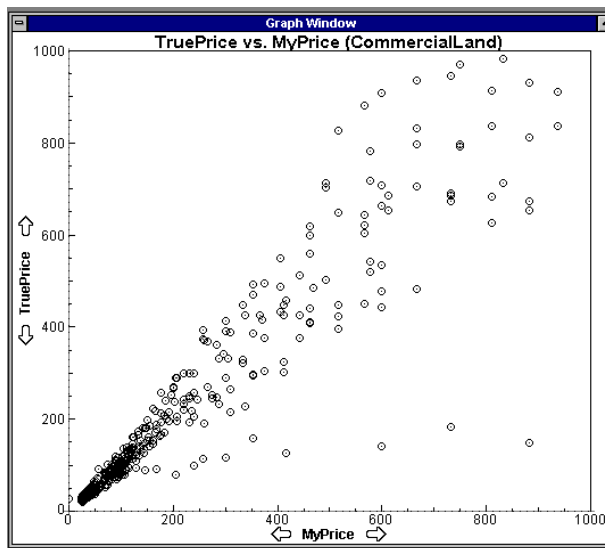
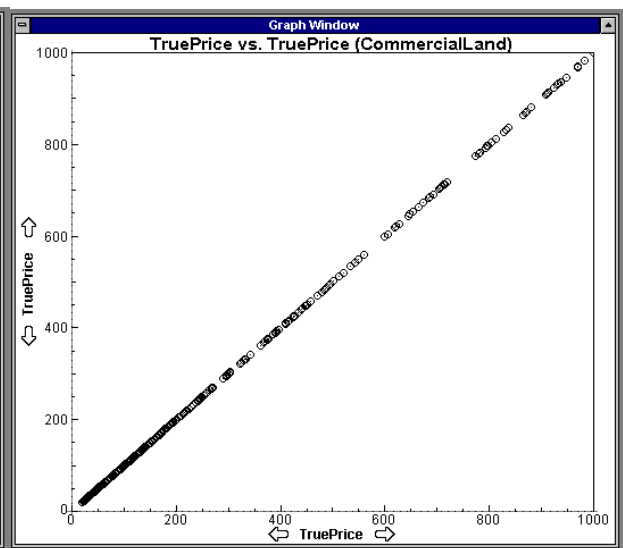

Figure 12a: TruePrice vs. MyPrice
Figure 12b: TruePrice vs. TruePrice
You may see a graph similar to what is shown in Figure 12a, where each point represents a comparison of the predicted price (MyPrice) to the actual value (TruePrice). If you now change the X-axis from MyPrice to TruePrice, you obtain a graph similar to what is shown in Figure 12b, which indicates a perfect fit.
- 1. Suppose one is comparing different models and one produces a graph of true prices versus predicted prices as shown in Figure 12a above. How will the graph for a more accurate model compare to the graph for a less accurate model?**